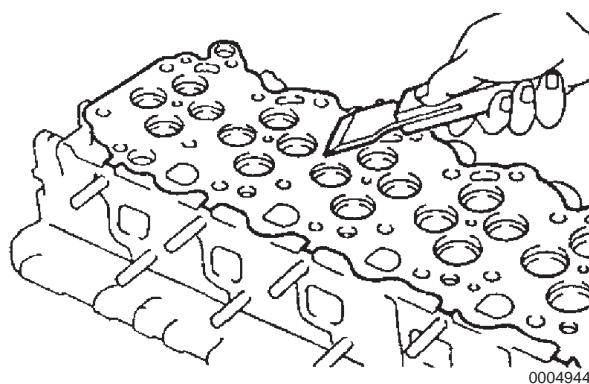

Figure 5-19
4. Remove all gasket materials from the cylinder head deck surface, using a scraper (Figure 5-19). *NOTICE: AVOID damaging the cylinder head deck surface during cleaning.*